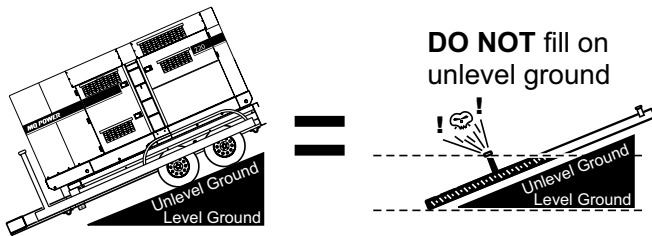

Figure 29. Only Fill on Level Ground
- Level Tanks** — Make sure fuel cells are level with the ground. Failure to do so will cause fuel to spill from the tank before reaching full capacity (Figure 29).